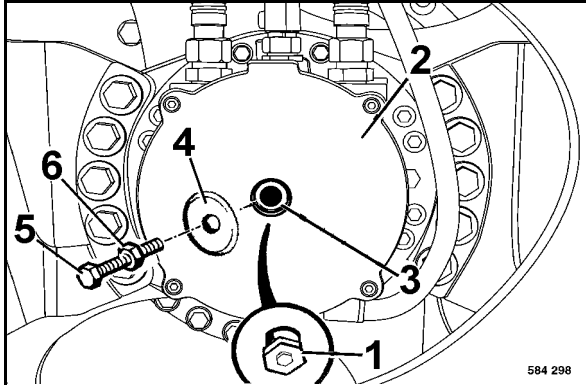

Fig. 111
- Unscrew\* plug 1 (Fig. 111) to release the brake in the drum drive motor.
- Place clamping disc (4) across the brake housing (2) and turn the screw (5) into the tapped bore (3), until it bottoms.
- Turn the nut (6) down and tighten it for approx. one turn. The drum must rotate freely.